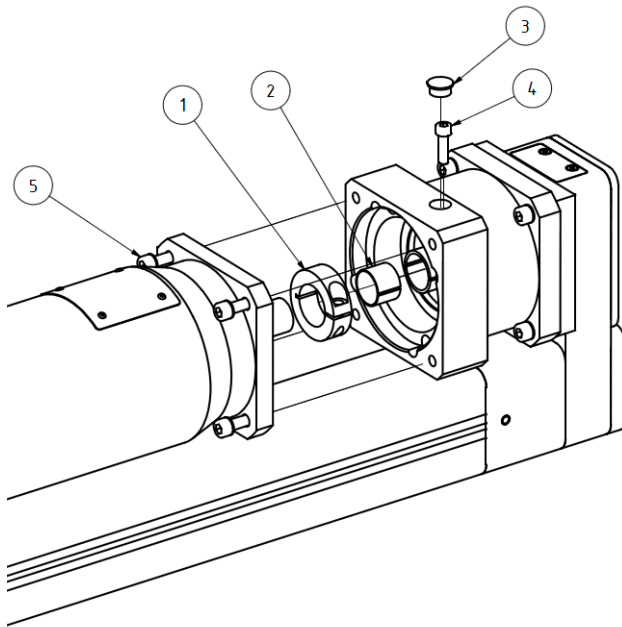
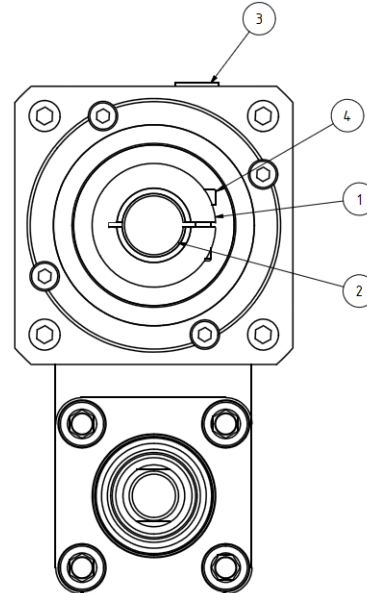

Figure 22: Disassembly of a EX motor
Figure 23: Flange view:
- ◆ Remove cover plate (please refer to Figure 22: Disassembly of a EX motor Pos. 3) and loosen screws (please refer to Figure 22: Disassembly of a EX motor Pos. 4)
- ◆ Loosen motor fixing screws (please refer to Figure 22: Disassembly of a EX motor Pos. 5)
- ◆ Clean contact surfaces of motor, motor shaft, motor flange, hollow shaft bore, clamping ring (please refer to Figure 22: Disassembly of a EX motor Pos. 1)) and spacer sleeve (please refer to Figure 22: Disassembly of a EX motor Pos. 2).
- ◆ Shaft, bore, clamping ring (please refer to Figure 22: Disassembly of a EX motor Pos. 1) and spacer sleeve (please refer to Figure 22: Disassembly of a EX motor Pos. 2) must be free from burrs, dirt and grease.
- ◆ Push the spacer sleeve (please refer to Figure 22: Disassembly of a EX motor Pos. 2) in the hollow shaft bore up to its stop.
- ◆ Put the clamping ring (please refer to Figure 22: Disassembly of a EX motor Pos. 1) onto the hollow shaft and shift it up to the stop.
- ◆ Align the slot of the clamping ring (please refer to Figure 22: Disassembly of a EX motor Pos. 1) and the spacer sleeve (please refer to Figure 23: Flange view: Disassembly of a EX motor Pos. 2) to the slot of the hollow shaft.
- ◆ Align the hollow shaft so that the clamping screw (please refer to Figure 23: Flange view: Disassembly of a EX motor Pos. 4) stands over the opening of the flange.
- ◆ Insert and tighten motor fixing screws slightly (please refer to Figure 22: Disassembly of a EX motor Pos. 5).
- ◆ Insert and tighten clamping screws slightly (please refer to Figure 22: Disassembly of a EX motor Pos. 4).
- ◆ Tighten clamping screw (please refer to Figure 22: Disassembly of a EX motor Pos. 4) with the respective tightening torque.
- ◆ Close the opening in the motor flange with the lid (please refer to Figure 22: Disassembly of a EX motor Pos 3)